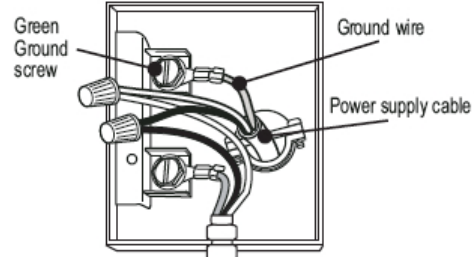
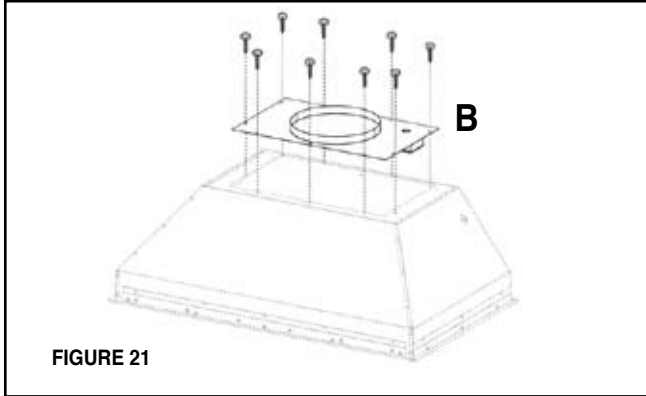

FIGURE 13
FIGURE 24
6. (see FIGURE 13) Remove the cover from the field wiring compartment with a phillips screwdriver. Feed the Power Supply Cable through the electrical knockout. Connect the Power Supply Cable to the rangehood cable. Attach the White lead of the power supply to the White lead of the rangehood with a twist-on type wire connector. Attach the Black lead of the power supply to the Black lead of the rangehood with a twist-on type wire connector. Attach the Power Supply Cable grounding lead to the green screw provided. Replace the cover.
4. Feed the remote blower cable thru the knockout hole in step 1 (FIGURE 24). Connect the power supply cable from the remote blower to the wiring box on the top ducting plate of the hood. Use step 6 on page 8 and the diagram on page 8 (FIGURE 13)